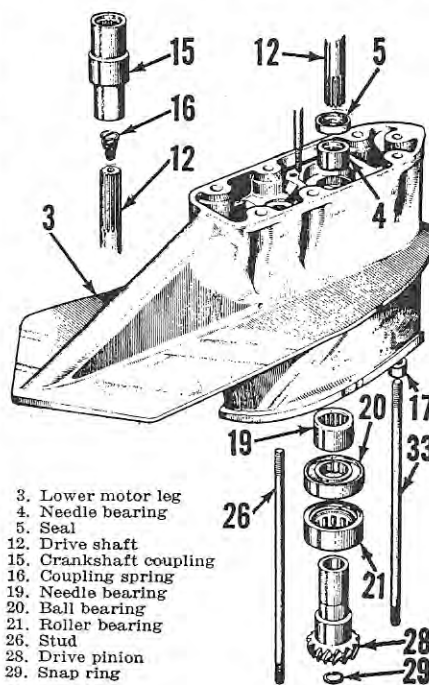

Fig. H27—Lower motor leg showing drive shaft, bearings and seals.
& 33—Fig. H27) and separate the gear housing from lower leg. NOTE: The 1/4-inch diameter dowel pin (31—Fig. H28) was not used in some early motors. Holes are provided for installation in all housings; if dowel is not in place, it should be installed before reassembly.
Install snap ring (29) in bottom of drive pinion (28) if it was removed or if parts were renewed, then install pinion and roller bearing (21—Fig. H27) in gear case. Tap the bearing very gently if it does not seat easily. Install pinion shaft ball bearing (20) with open side down toward pinion gear.